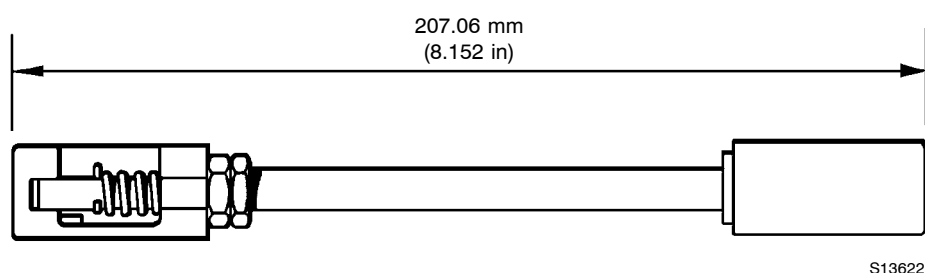

FIG 5.6 VANE LENGTH
- 8.5 Check the overall length of each vane assembly, (Fig 5.6). If incorrect, and accurate measuring instruments are available, the length can be reset by making the necessary adjustment using the adjusting nuts (43).